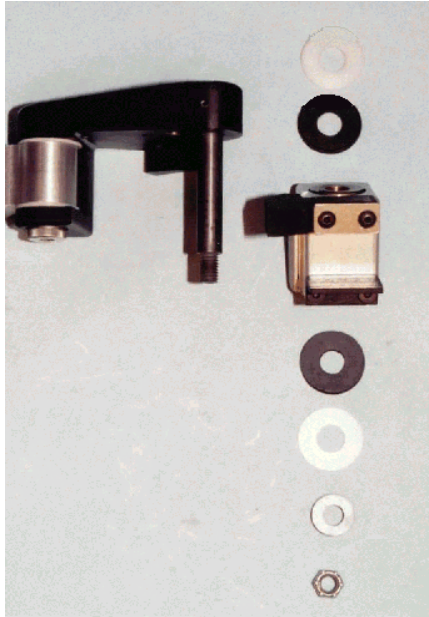

Figure 8.13- Exploded shoulder block to support assembly
11. **Figure 8.13** shows an exploded view of the completed right shoulder block assembly attached to the right shoulder support. Position in the following order, a Yoke Washer (T1SHM028) and a Rubber Washer I (T1SHM030) over the Shoulder Shaft (T1SHM035) that is attached to the Right Shoulder Support (T1SHM023). Insert the assembly into the right shoulder block assembly and place in the following order, a Rubber Washer I, a Yoke Washer, a flat washer (1.25" OD, 13/32" ID), and a 3/8-16 nylock nut {9/16} on the opposite end of the Shoulder Shaft.